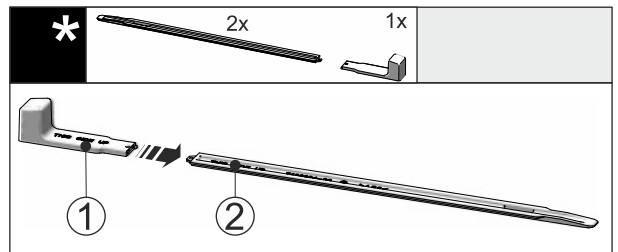

Fig. 43
- Attach the installation handle Fig. 43 (1) to the levelling rail Fig. 43 (2).